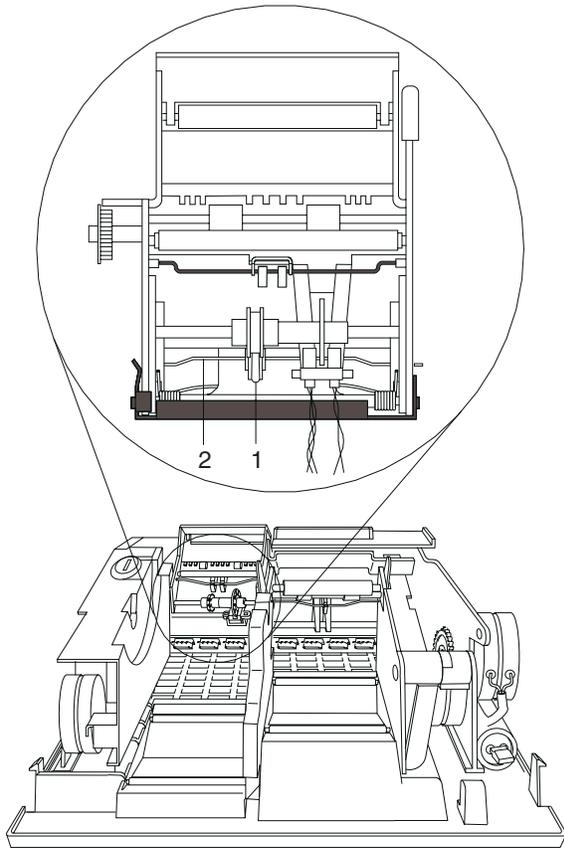

Figure 6-22. JNL Assembly
- See Figure 6-22 on page 6-34.
- Ensure that the O-ring (1) that turns the emitter wheel is on the emitter wheel rim.
Put the O-ring back on the emitter wheel rim. See Figure 6-22 on page 6-34.